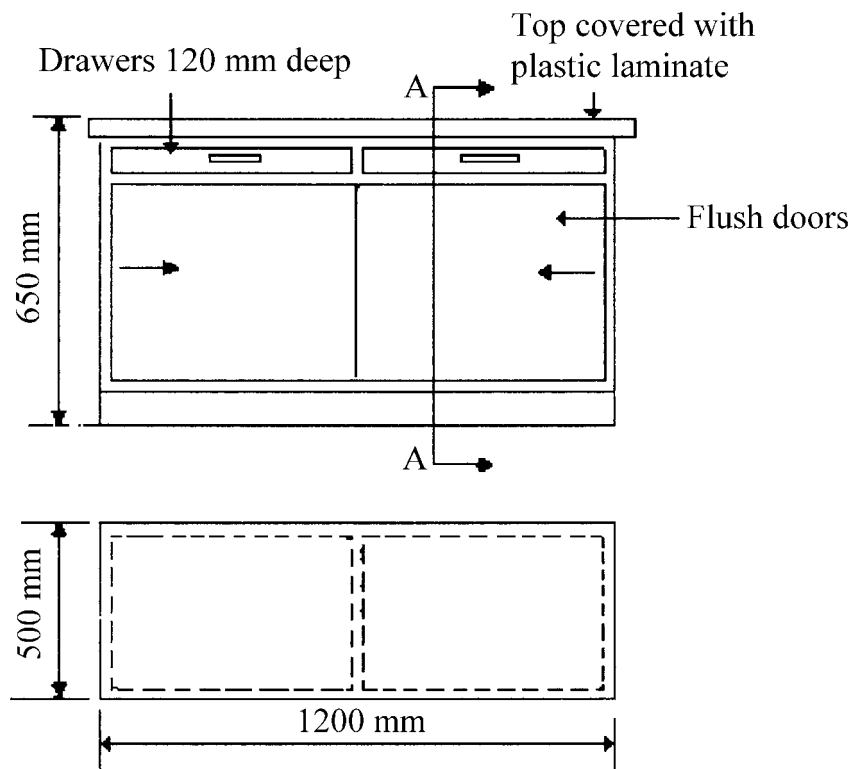

Fig. 3
8. Details of a free-standing domestic fitment required for the catering department of a college are shown in figure 3. The 32mm thick worktop of the fitment is to be covered with plastic laminate and to have drawers and sliding doors under as indicated. For hygienic reasons, flush surfaces are required throughout.